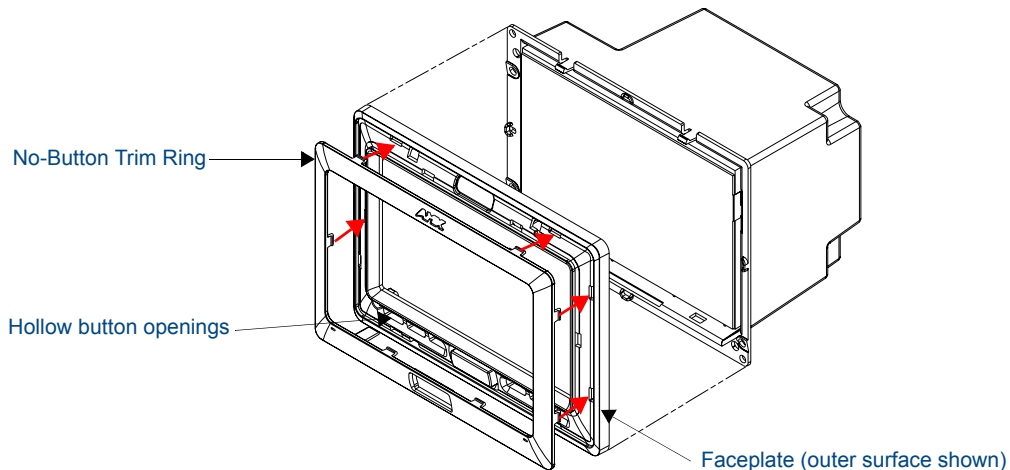

FIG. 10 Inserting the No-Button Trim Ring
7. Gently insert the Trim Ring latches into their corresponding openings on the outer surface of the internal Faceplate (FIG. 10).